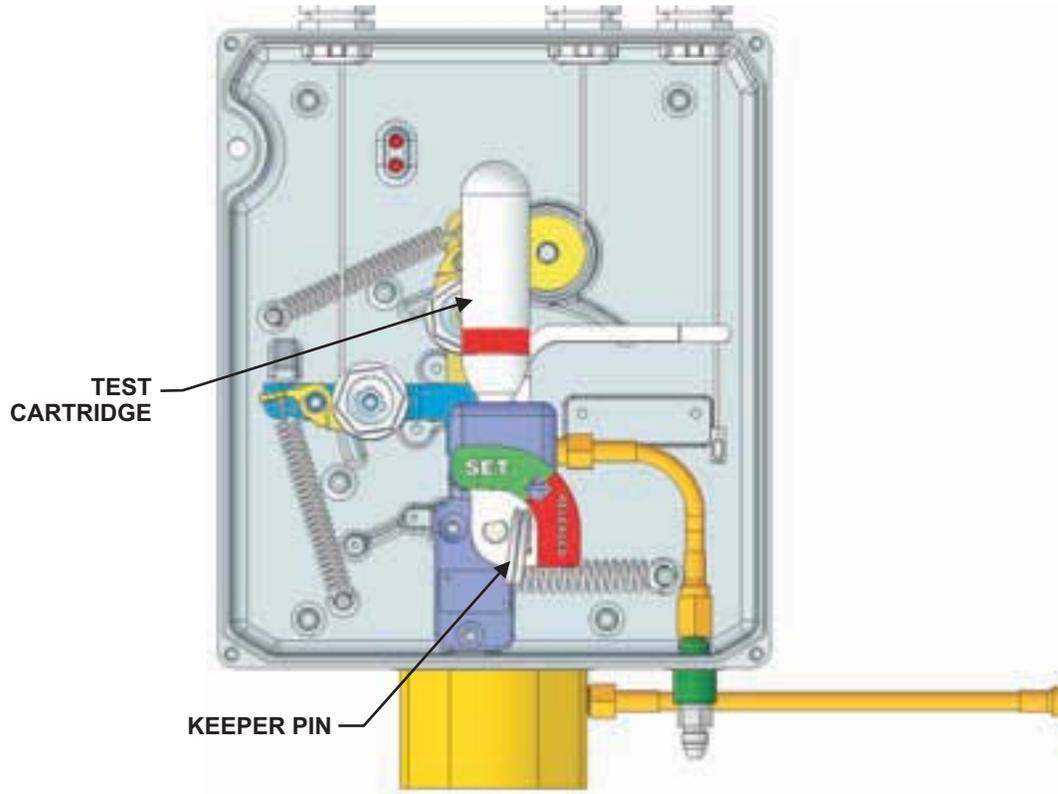

Figure 5-13. UCH Control System, Test Cartridge Placement
1. After ensuring that the system is in the 'Set' position and the Keeper Pin is in place, locate the Test Cartridge (P/N 87-120044-001). Carefully install the cartridge into the valve assembly of the UCH Control System. Tighten until cartridge is snug (see Figure 5-13). It is permissible to perform this test with the System Cartridge.